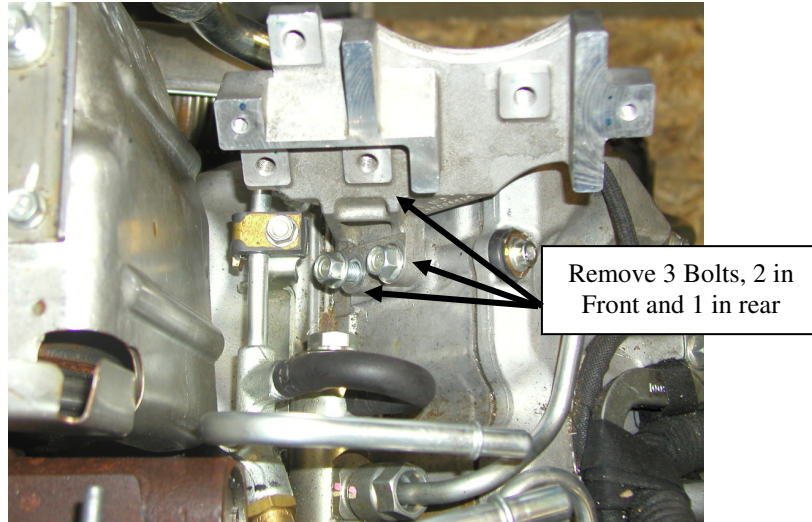

Figure 4: GPC Bracket
8. Remove the GPC bracket using a 12mm socket. On the LBZ there are three 8mm bolts that hold the bracket onto the valve cover, Figure 4. Once removed, discard the bracket.